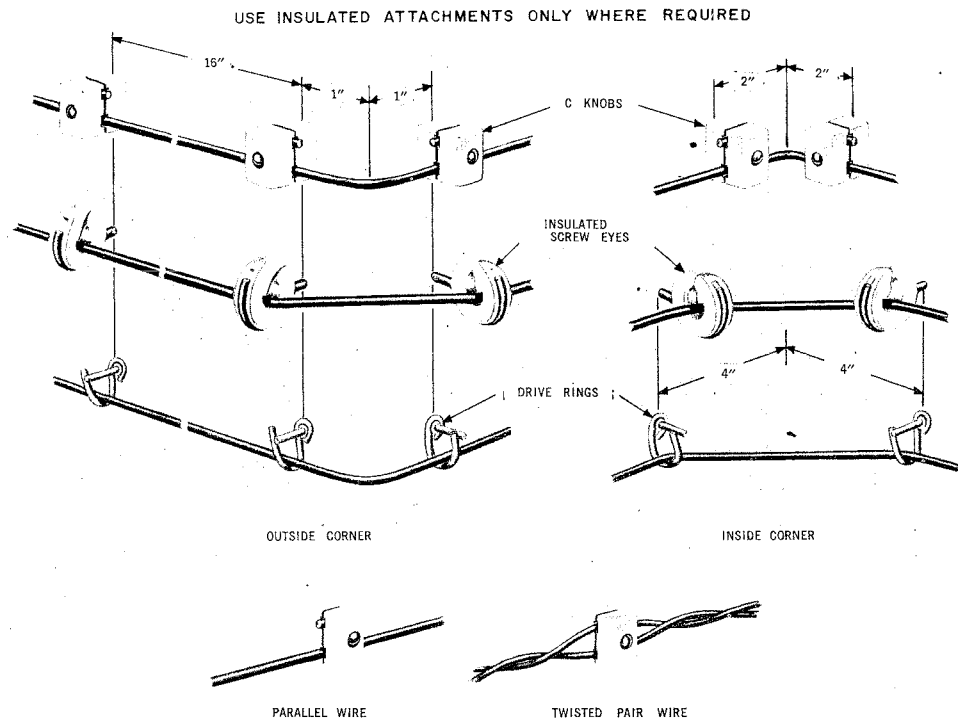

Fig. 15 — Fastening Drop and Block Wire Inside of Buildings
**18.01** Typical drop and block wire runs within a building, some of the attachments to be used, and the spacing of attachments are shown in Fig. 15.